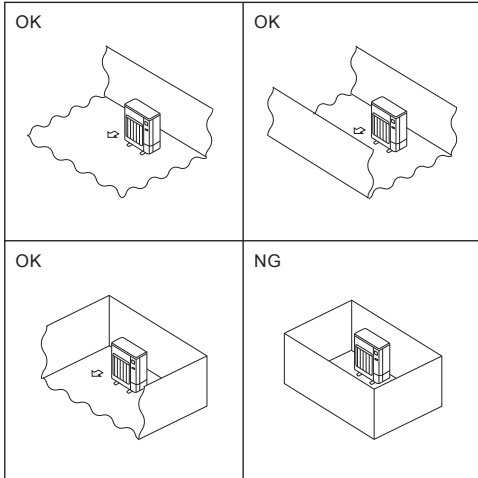

Fig. 2-2
- Ⓐ Install outdoor units in a place where at least one of the four sides is open, and in a sufficiently large space without depressions. (Fig. 2-2)